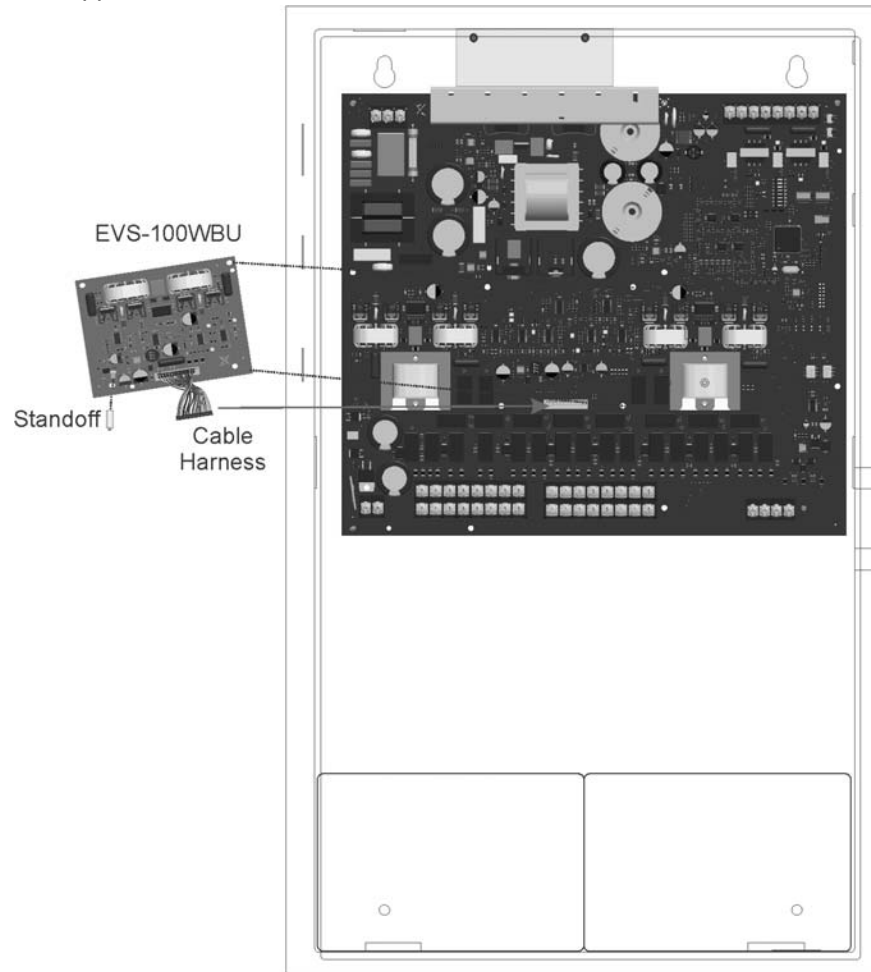

Figure 4-46 Mounting the EVS-100WBU
2. Connect the backup amplifier cable harness (P/N 50116775-001) from the connector labeled "Backup Amplifier" on the EVS-100W to the connector on the EVS-100WBU as shown in Figure 4-46.
- Using the 4 supplied screws, mount the EVS-100WBU to the standoff's as shown in Figure 4-46.